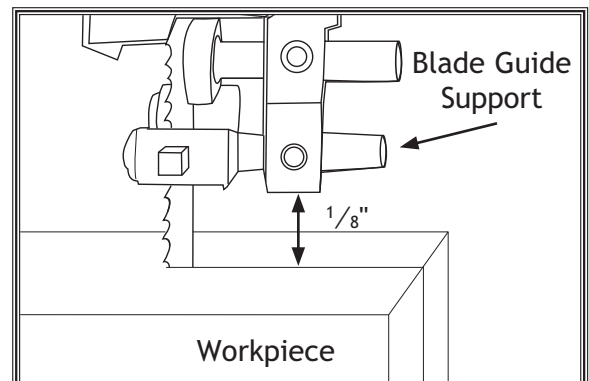

Figure 40. Clearance between blade guide support and workpiece.
3. Turn the elevation height knob to raise or lower the blade guide support until it is no more than $\frac{1}{8}$ " from the top of the workpiece (see **Figure 40**).